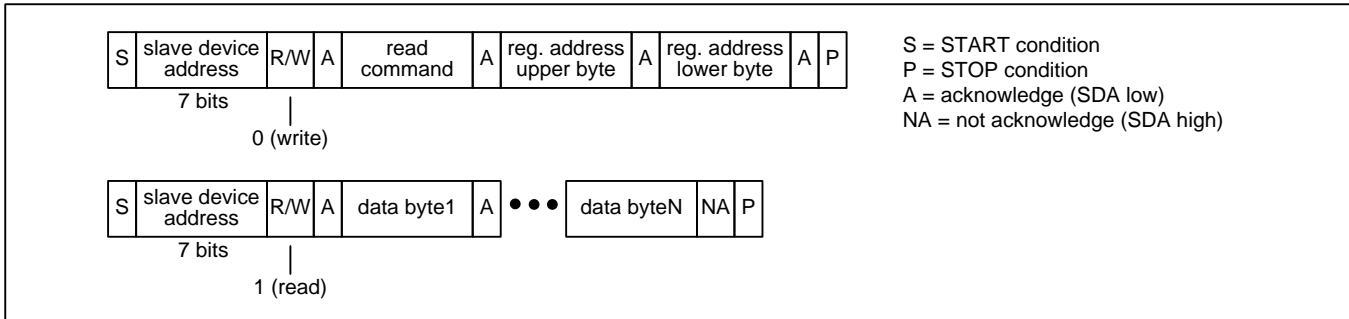
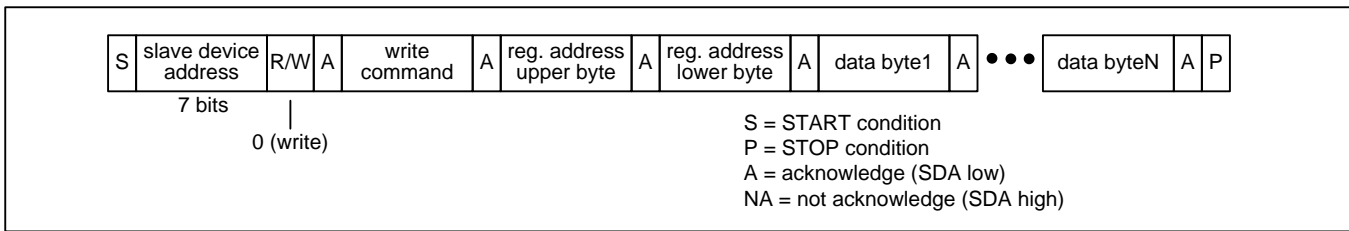

Figure 6 - I²C Read Transaction Functional Timing
Figure 7 - I²C Write Transaction Functional Timing
Read Transactions. The bus master first does an I²C write to the device. In this transaction three bytes are written: the SPI Read command (see Table 3), the upper byte of the register address, and the lower byte of the register address. The bus master then does an I²C read. During each acknowledge (A) bit the device fetches data from the read address and then increments the read address. The device then transmits the data to the bus master during the next 8 SCL cycles. The bus master terminates the read with a not-acknowledge (NA) followed by a STOP condition (P). See Figure 6. After the I²C write there can be unlimited idle time on the bus before the I²C read, but the device cannot tolerate other I²C bus traffic between the I²C write and the I²C read. Care must be taken to ensure that the I²C read is the first command on the bus after the I²C write to ensure the two-part read transaction happens correctly.
Write Transactions. The bus master does an I²C write to the device. The first three bytes of this transaction are the SPI Write command (see Table 3), the upper byte of the register address, and the lower byte of the register address. Subsequent bytes are data bytes to be written. After each data byte is received, the device writes the byte to the write address and then increments the write address. The bus master terminates the write with a STOP condition (P). See Figure 7.
Note: In Figure 6 and Figure 7, a STOP condition (P) immediately followed by a START condition (S) can be replaced by a repeated START condition (Sr) as described in the I²C specification.